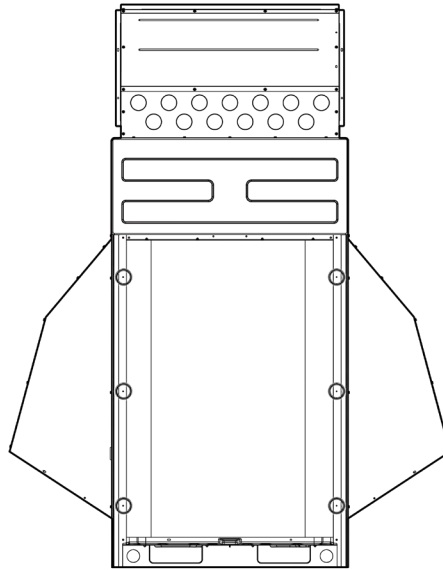
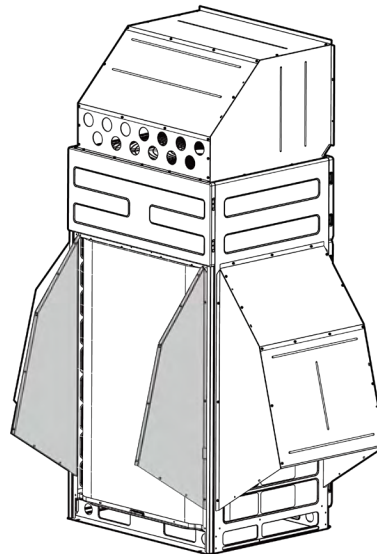

Fig. 3.16
Fig. 3.17
(2) As Fig 3.16 is shown, the screw hole is empty after dismantling the grille, fix the side plate with 6 screws. During installation, the bottom edge of left side plate and right side plate shall be folded outwards. Please refer to Fig 3.17 for the completion status.